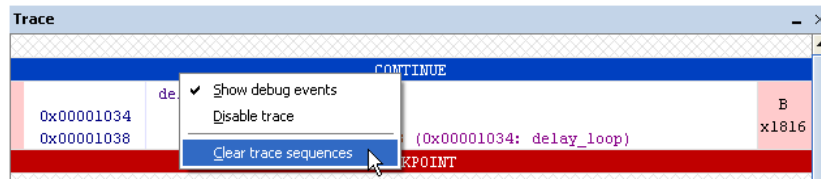

Figure 43. Clear the trace sequences.
2. For this part of the tutorial, first clear the trace by right-clicking in the **Trace** window and clicking **Clear sequences**, as shown in Figure 43.